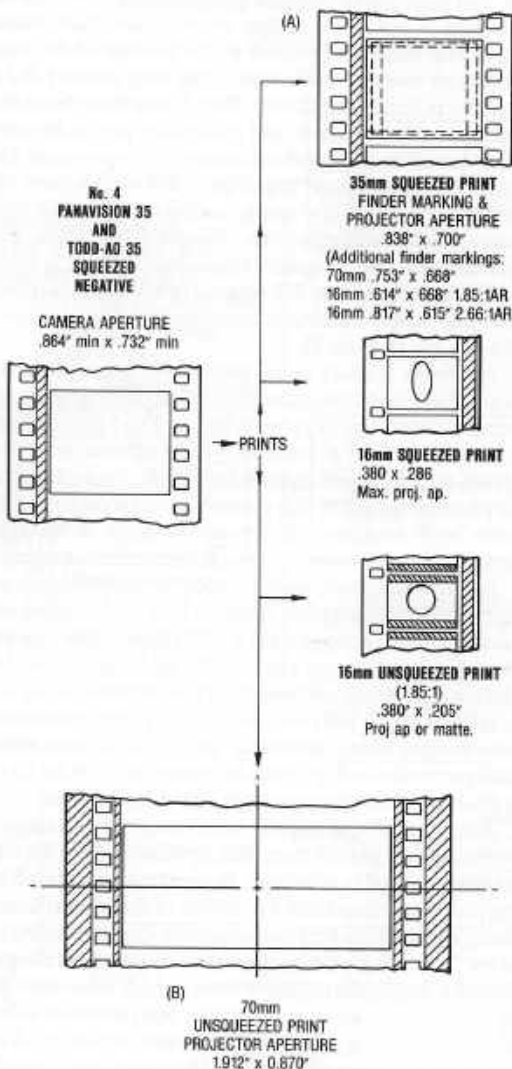

Figure 3.
4. 35mm camera, 2:1 anamorphic lens (squeezed) photography for theatrical presentation (Panavision and Todd-AO 35). (Figure 3)